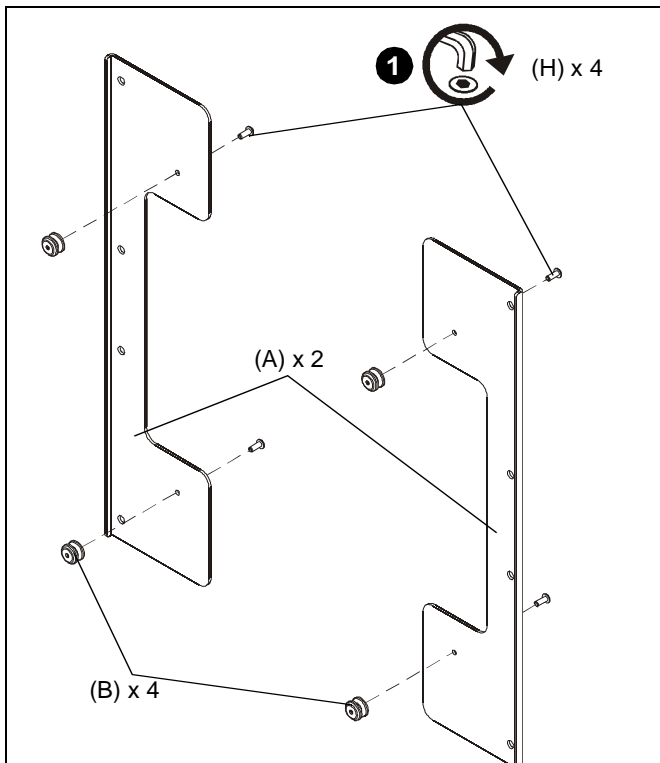

Figure 1
1. Attach mounting buttons (B) to interface brackets (A) using four 10-24 x 1/2" button head cap screws (H). (See Figure 1)